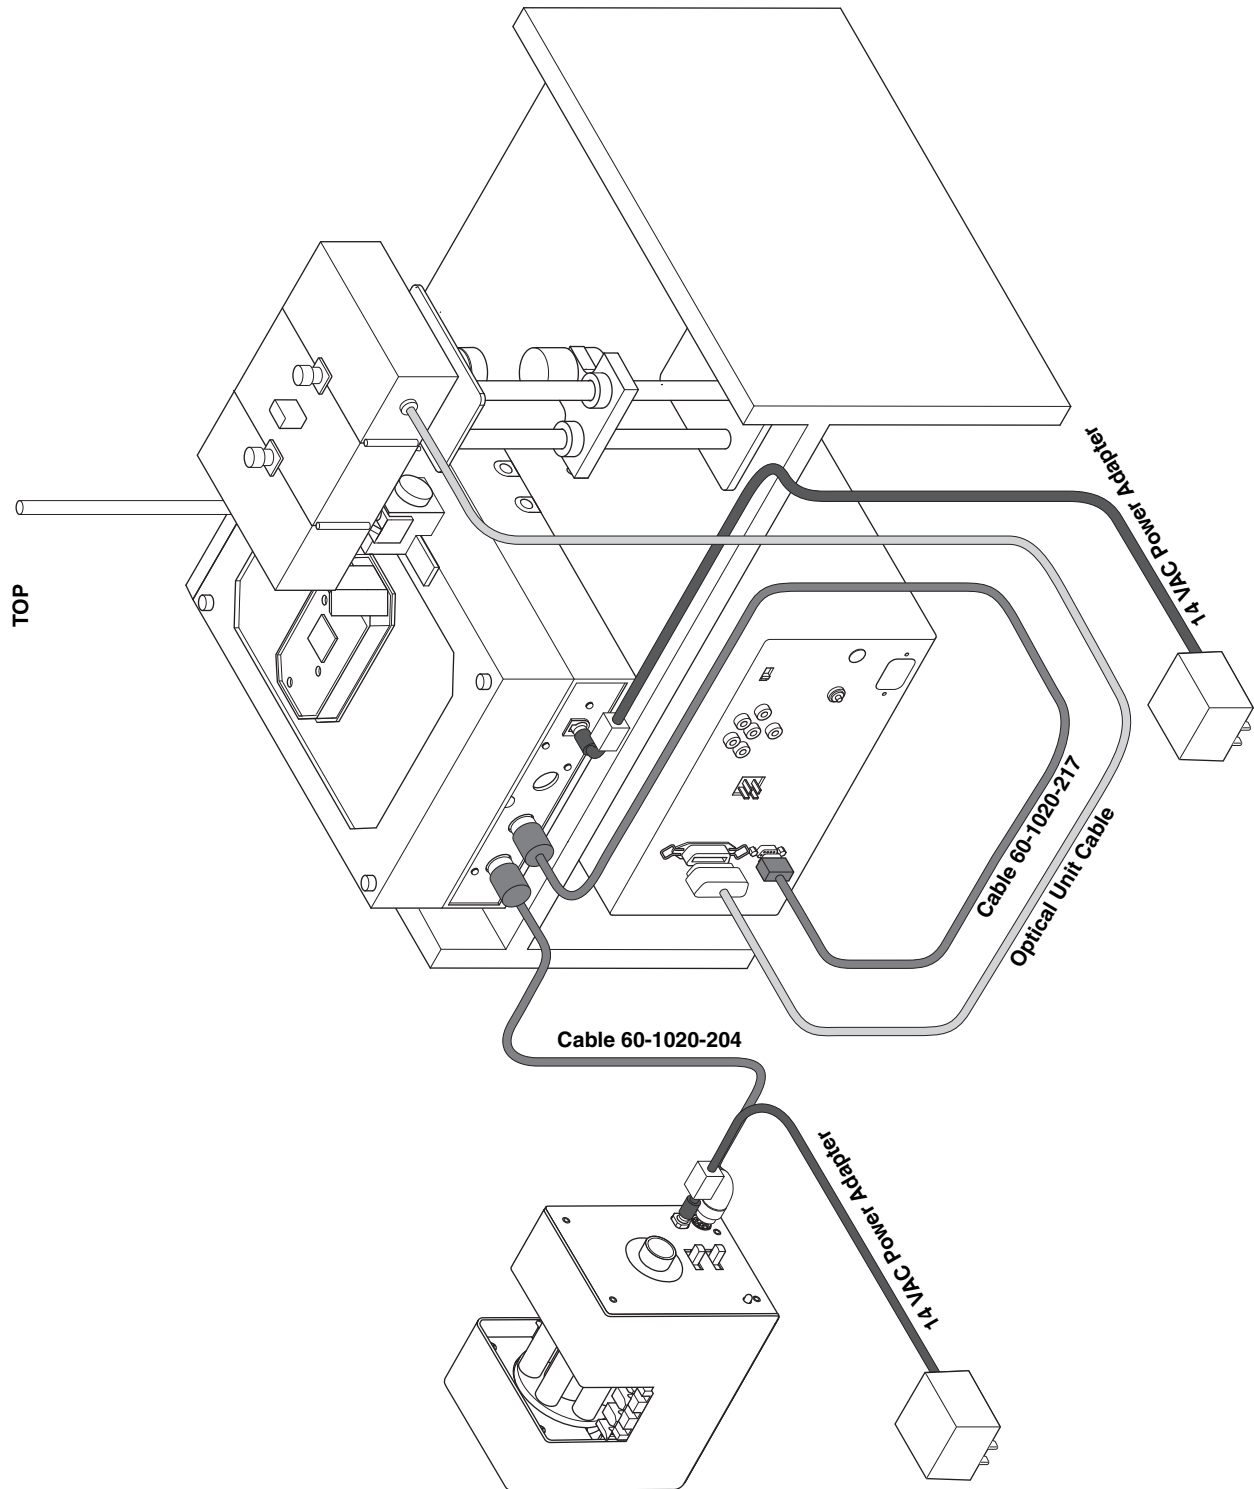

Figure 2-4 System connections with a Retriever 500 fraction collector (rotated view)
(Figure 2-4)*
1. Position system components on the organizer shelf as shown in Figure 2-4.